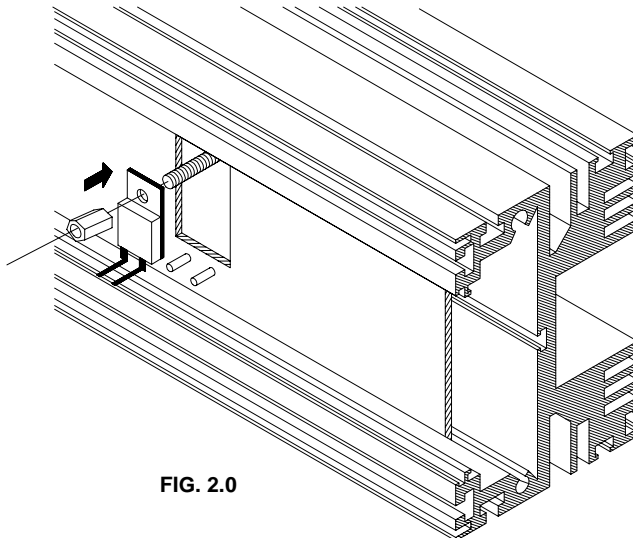

FIG. 2.0
- ☞ **Note** : If the optional thermal protection is used, a hexagonal bolt should be slit into the mounting slot, and into the hole in the P.C.B. Then the THERMIC may be mounted on the heat sink and its terminals may be connected to the positions TS (see Fig. 2.0).